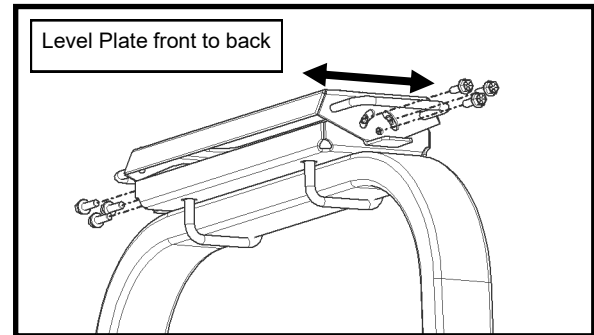

Fig. 3 (Attach Striker Plate)
3. Per fig. 3, attach the Striker Plate to the ROPS Plate using the supplied 1" long 5/16-18 screws. Take care not to cross thread the weld nuts.